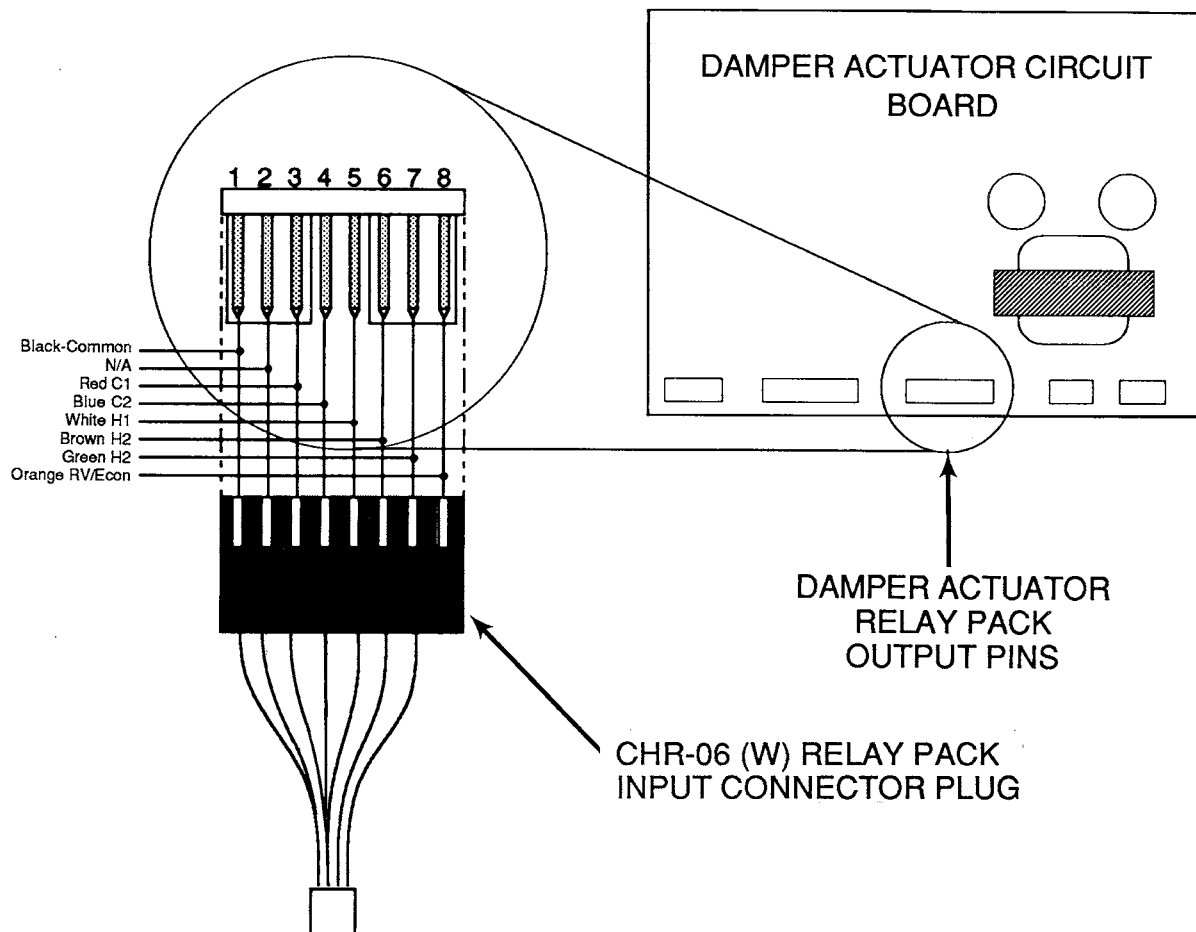

Fig. 33 — Damper Actuator Circuit Board and Pin Locations
1. Check the AC voltage across the relay board common (red) and any deenergized relay (H1 or C1 in Fig. 33). The voltage should read 24 vac. If not, check for wiring error.